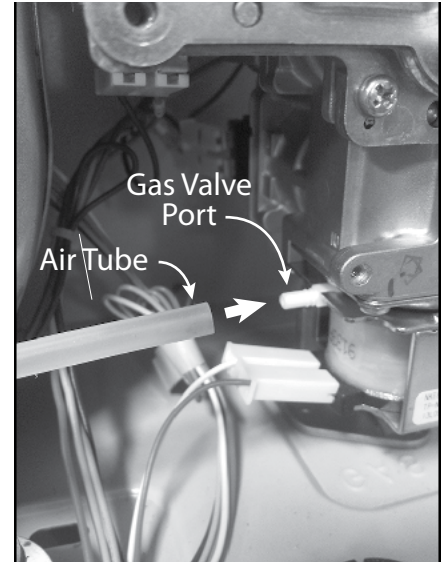
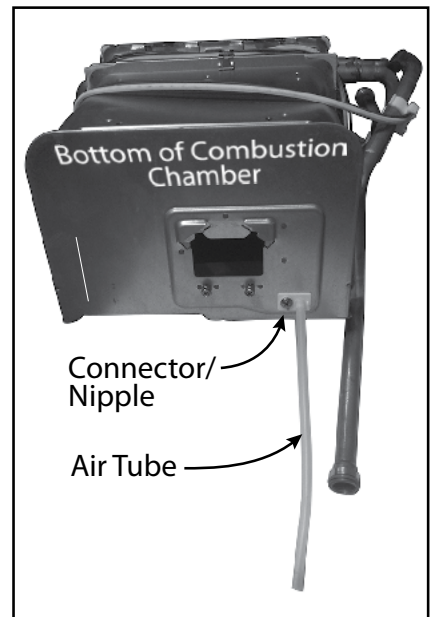

Figure 4.
Figure 5.
4. Make sure that the clear plastic tube connecting the proportional gas valve to the combustion chamber is attached. See Figure 4 and Figure 5. If necessary, see also Figure 41 (p. 49) or Figure 42 (p. 50).